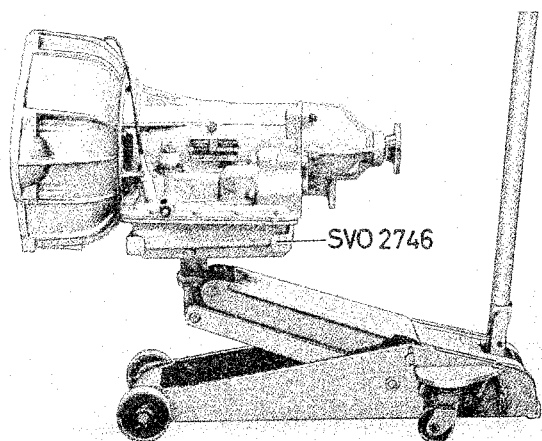

Fig. 4-72. Fixture for transmission
5. Replace the lift plate on a jack with fixture 2746. Support under the gearbox with the jack, see Fig. 4-72.